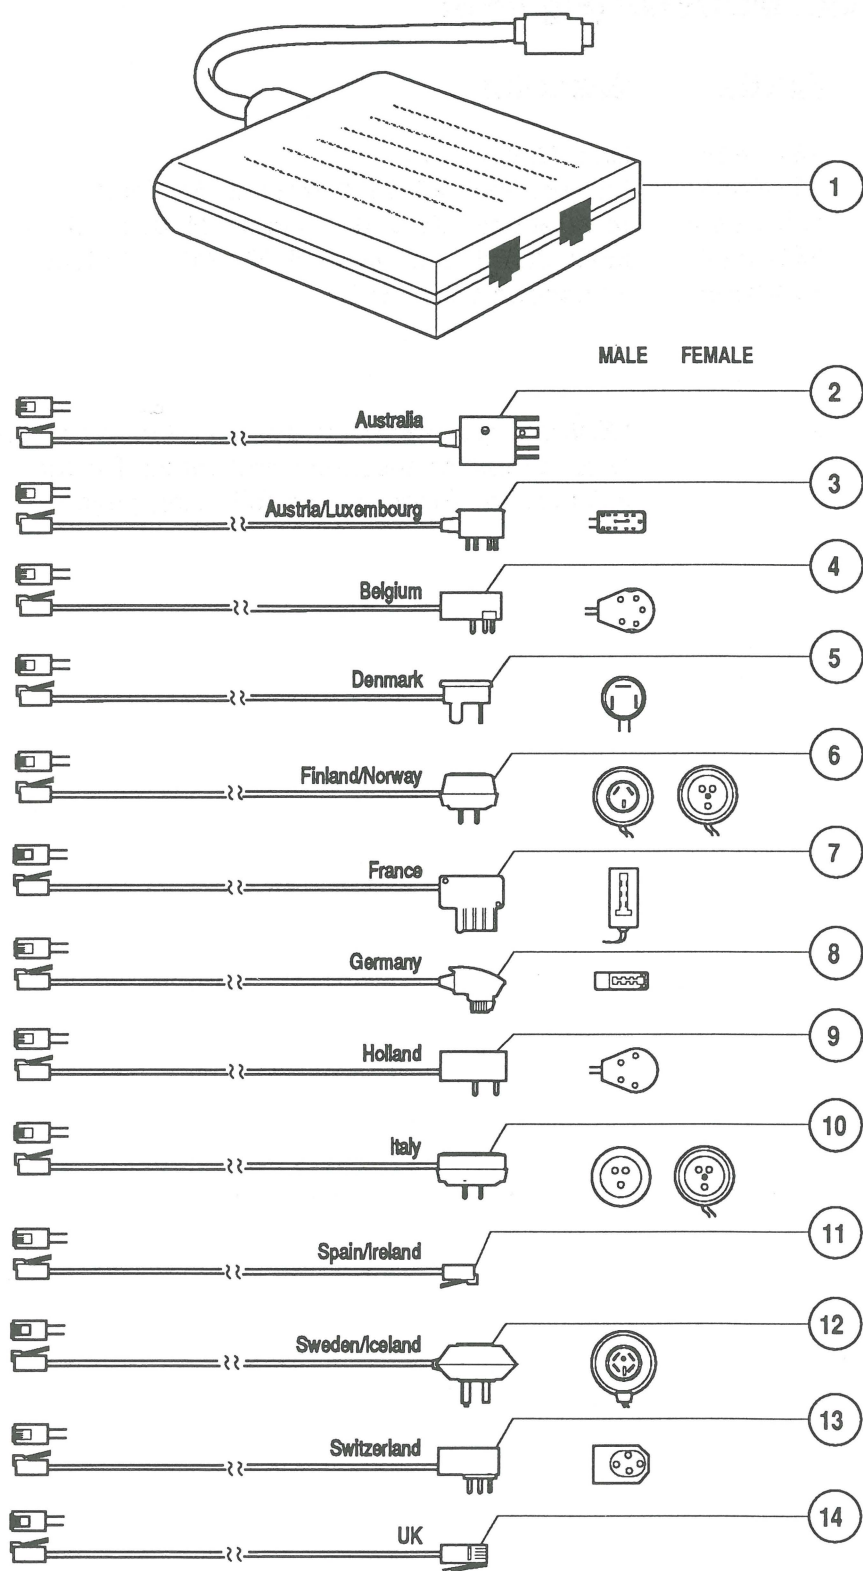

FIGURE 9
□ DATA ACCESS ARRANGEMENTS (DAAs) AND CABLES (Figure 9)